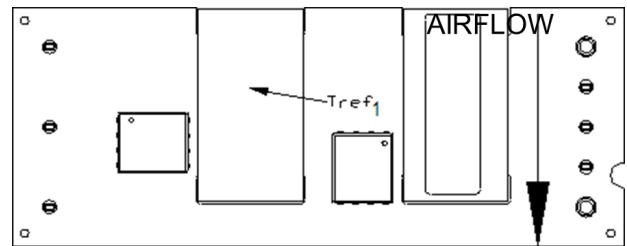
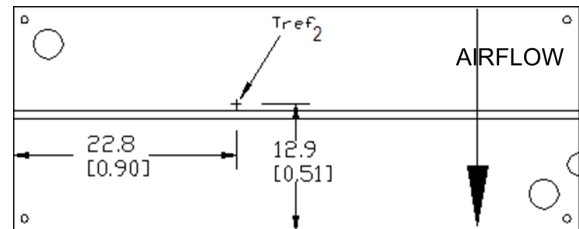

Figure 12. Tref Temperature Measurement Location for Open Frame Module.
Figure 13. Tref Temperature Measurement Location for Module with Heat plate.
To provide protection under certain fault conditions, the unit is equipped with a thermal shutdown circuit. The unit will shutdown if the thermal reference point, T_{ref1} exceeds 135°C (Figure 12, typical), or T_{ref2} exceeds 120°C (Figure 13, typical), but the thermal shutdown is not intended as a guarantee that the unit will survive temperatures beyond its rating. The module will automatically restart upon cool-down to a safe temperature.
Considerations include ambient temperature, airflow, module power dissipation, and the need for increased reliability. A reduction in the operating temperature of the module will result in an increase in reliability. The thermal data presented here is based on physical measurements taken in a wind tunnel. The thermal reference point, T_{ref1} , used in the specifications for open frame modules is shown in Figure 12. For reliable operation this temperature should not exceed 130°C.
The thermal reference point, T_{ref2} , used in the specifications for modules with heat plate is shown in Figure 13. For reliable operation this temperature should not exceed 104°C.